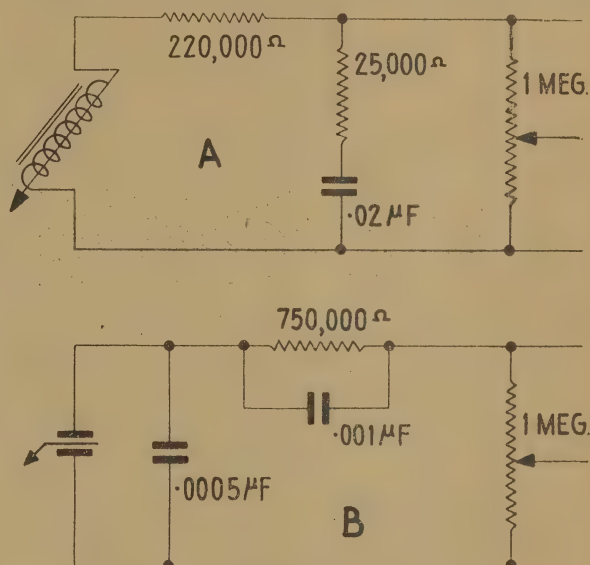
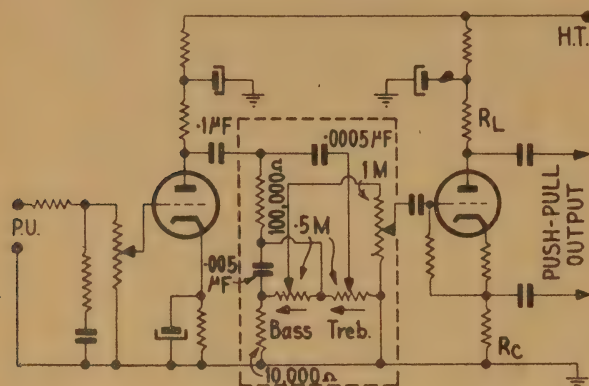

Fig. 10.
Fig. 11.
lift is insufficient for the satisfactory reproduction from records; it is a simple matter to fit a bass "boost" filter in the pick-up leads. Fig. 10 (A) shows a suitable circuit for an average magnetic pick-up, with values of components designed for a 6 db. lift per octave, which should be sufficient to cover any recording loss. If the pick-up is of the crystal type (and does not possess bass boost characteristics) a suitable circuit will be found in Fig. 10 (B).
subsequently amplified. Fig. 11 shows a suitable circuit for use with a push-pull output stage. The pick-up input is fitted with the bass "boost" circuit of Fig. 10 (A) with an overriding pre-set volume control feeding the grid of the first valve. The portion enclosed by the broken line is the combined remote tone and volume control whose output feeds the grid of the phase-splitter valve. The control box or container can be some four or five yards from the amplifier without upsetting the operation or picking up hum, so that the arrangement may be found to be of considerable convenience. Alternatively, of course, the control may be built into the amplifier circuit in the normal way. The operation is somewhat complicated to explain as the bass and treble controls have a reflected effect on each other, but the overall result is a very flexible and smooth control system, and, within reasonable limits, the exact shade of compensation can be achieved to suit the individual acoustic taste.